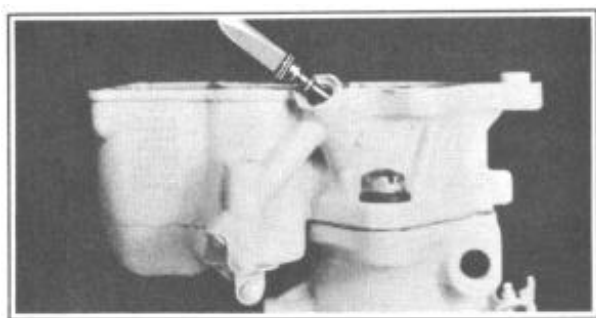

FIGURE 37
11. Install pump jet and pump jet passage plug and gasket assembly, Figure 37. (Be sure jet is clear of all restrictions and seats properly.)